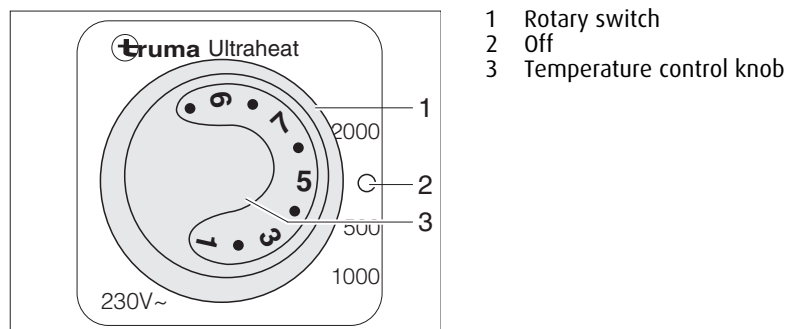

Fig. 118 Operating unit for Ultraheat additional electric heater
- Turn the rotary switch (Bild 118,1) to the desired output level (500, 1000 or 2000 W).
- Turn the temperature control knob (Bild 118,3) to the desired output level.
- Set the rotary switch (Bild 118,1) to "0" (Bild 118,2).